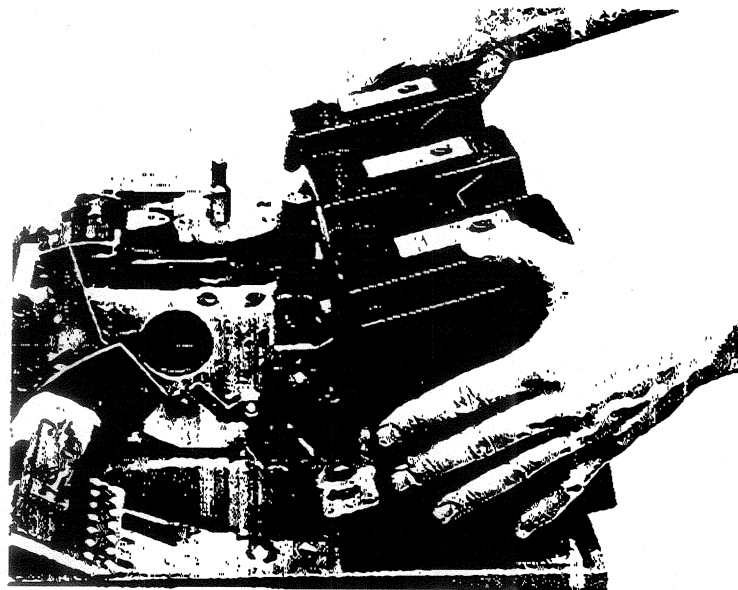

Fig. 4. Method for removal and installation of trip unit.
2. Lift the load end of the unit first and pull out of the frame. See Fig. 4.
2. Lower the trip unit into the breaker frame as shown in Fig. 4. The trip paddle should sit over the mechanism latch.